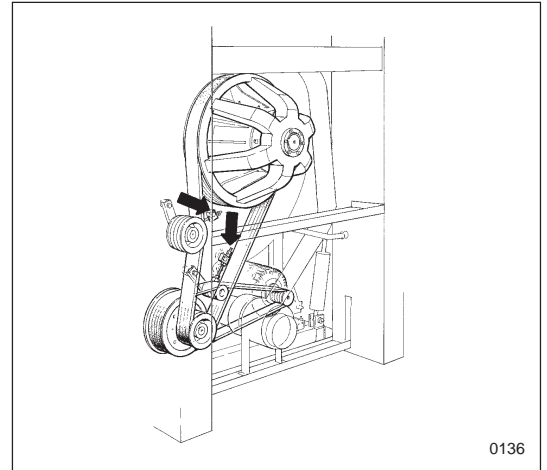

Figure 1.
4. Check belts for damage and proper tension. If necessary, adjust the belts with the two belt tighteners, see figure 1 and section "30. Motor."